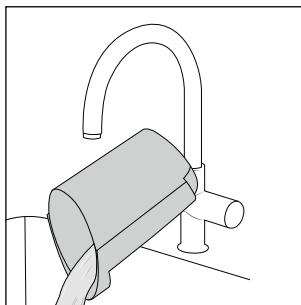

Fig. 22
- ◆ Tip out the dirty water and dirt (see fig. 22).